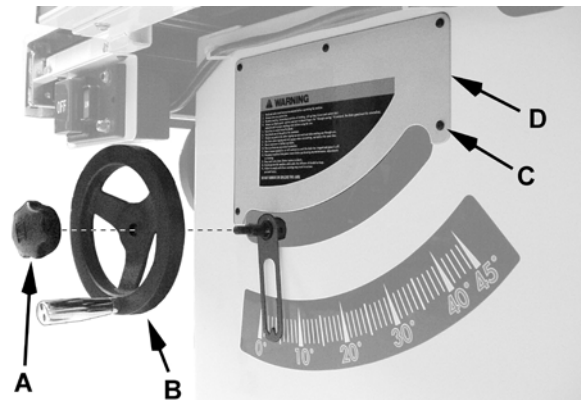

Figure 48
2. Referring to Figure 48, remove the front panel (D) by unscrewing the lock knob (A), pulling off the handwheel (B) and removing five pan head screws (C) that hold the front panel.